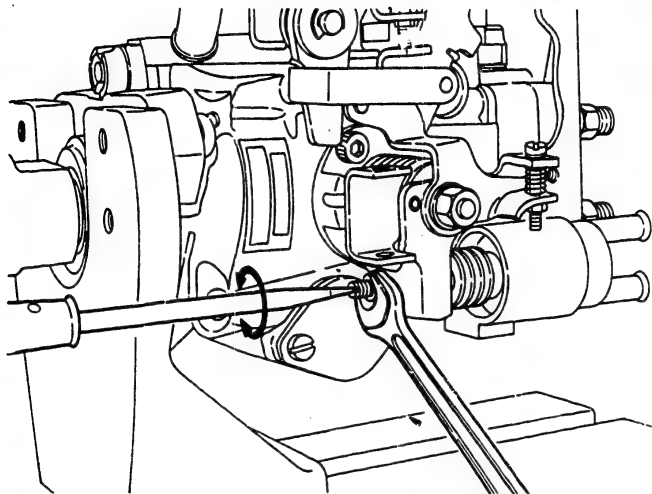

Fig. 162 Setting the adjusting screw
7. Adjust the timer's starting advance angle (i.e. timer stroke at starting) by turning the adjusting screw of the wax-cold start device so that the timer stroke is as specified (i.e. the above value) for the ambient temperature. (Fig. 162)